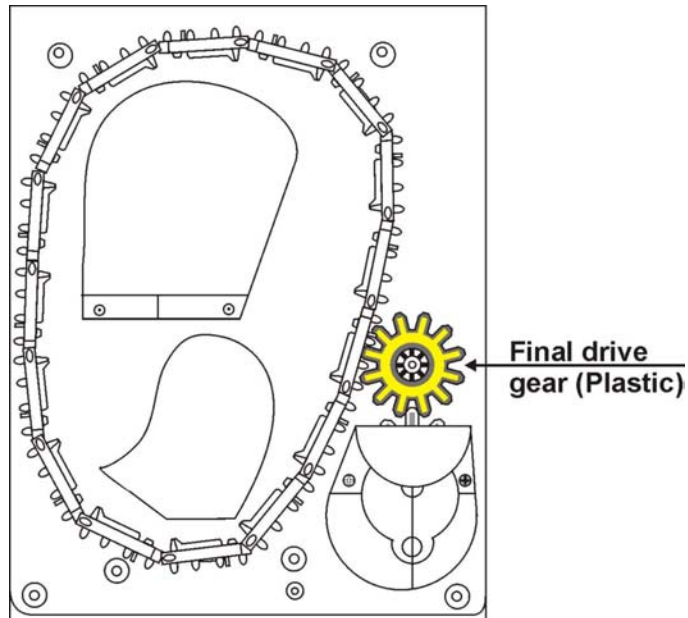

Figure 15: Final Drive Gear position
1. Once the 'Elevator Track' is in place, the 'Final Drive Gear' can be fitted by placing the gear over its mounting spindle, while lining the teeth up with the secondary drive gear, adjust the 'Elevator Track' so that the gear falls into place. Figure 15.